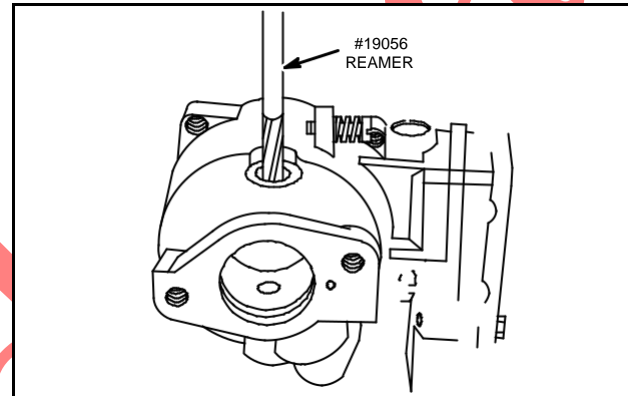

Fig. 21 – Ream Bushing
7. Finish ream bushing with reamer #19056, Fig. 21.